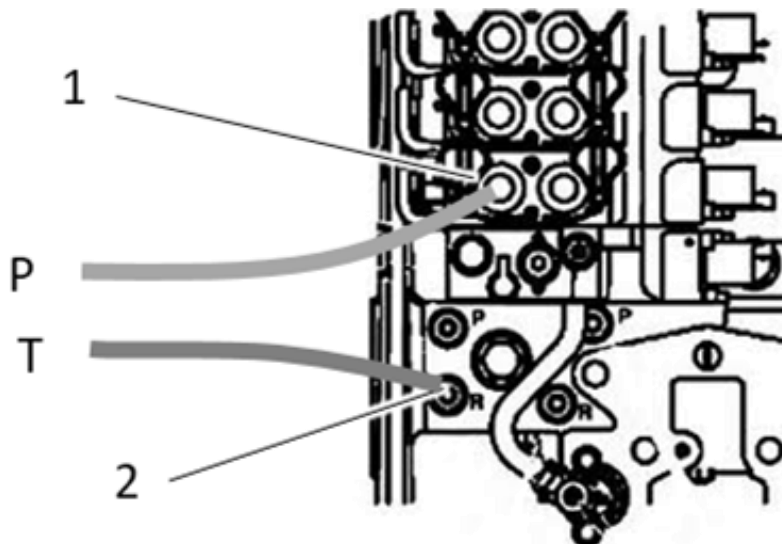

Figure 14: Hydraulic connection
The Scorpion 300 harvester requires a continuous adjustable hydraulic flow from the tractor to operate correctly. Only two lines are required, 'P' (flow/pressure) and 'T' (Tank/Return). A reverse connection is prevented by a check valve in the harvester hydraulic valve manifold. Ideally, connect the tank line (T) to a motor return port on the tractor (often used for hydraulic motor return on planters or sprayers), that offer a low flow resistance. Do NOT use a case drain port, since these are not filtered and designed for very low flow. If no return port is available, contact your local tractor service provider to install one. Figure 14 shows a typical example of proper hydraulic connection.